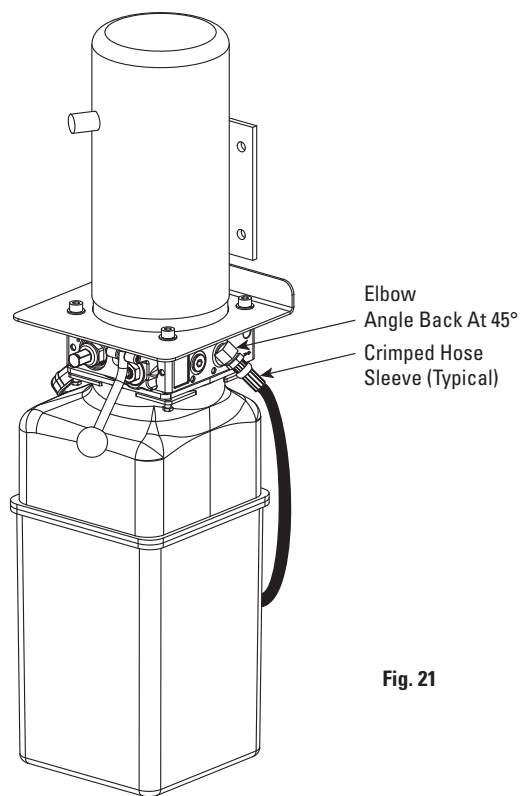

Fig. 21
- C. Run hydraulic hose from runway through slot in side of runway to power unit, Fig. 21. DO NOT use Teflon tape on hydraulic hose connections. Clean elbow and hose. Inspect all threads for damage and hose ends to be sure they are crimped. Install and hand tighten hose to pump until O-ring is seated and elbow should be oriented downward at approximately 45°, Fig. 21. Tighten locknut to 35-40 ft. lbs.